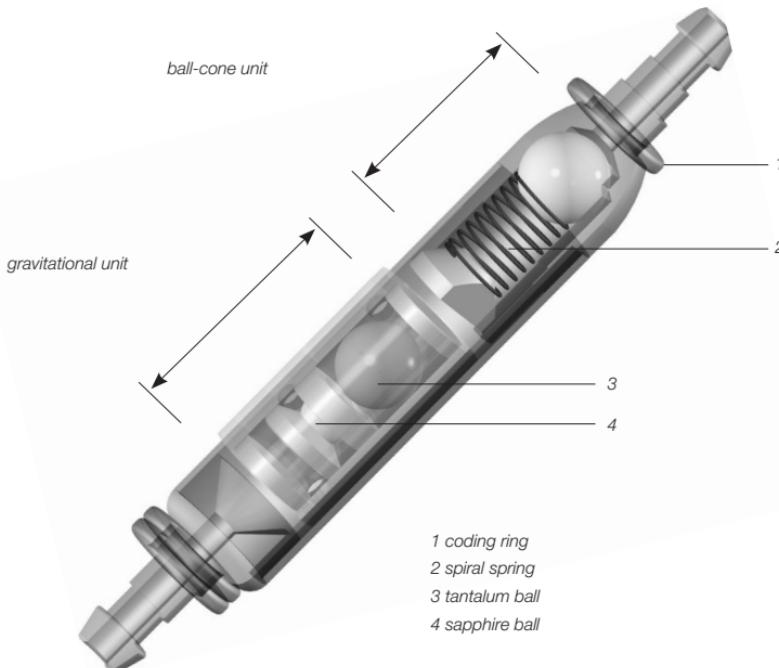

Fig. 1: Schematic cross section of the paed/GAV
Fig. 1 shows a schematic cross section of the paed/GAV. It consists of a sturdy titanium casing, which houses, in its proximal section, a welltried ball-cone unit. A spiral spring (2) maintains the opening pressure of the ball-cone unit. The gravitational unit in the distal part consists of a tantalum ball (3), which defines the opening pressure of this valve, and a sapphire ball (4), which ensures its precise closure.